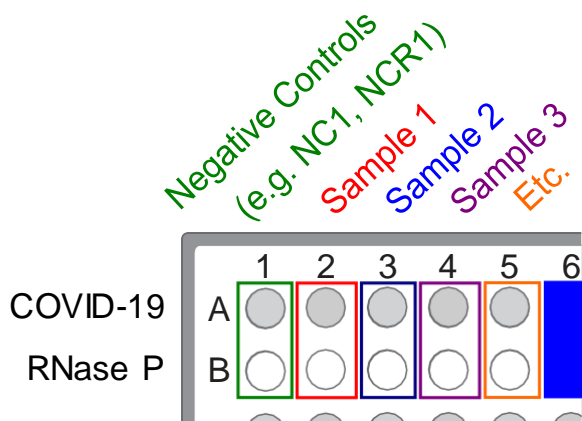

Figure 8 Paired sample and Negative Control wells for each assay
- b. Unseal the extraction plate, then add the Negative Control from the single well of the extraction plate to wells A1 and B1 of the reaction plate, as shown in Figure 8 on page 65.